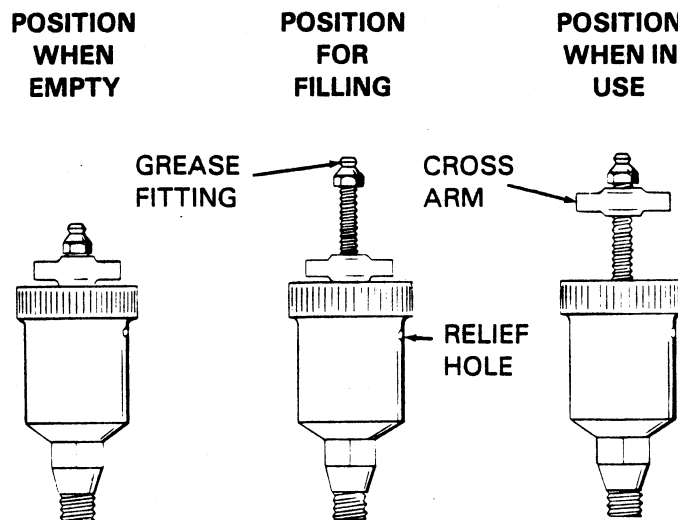

Figure 3. Automatic Lubricating Grease Cup
Before removing the seal assembly, turn the cross arm on the seal grease cup (18) clockwise until it rests against the cover (see figure 3). This will prevent the grease in the cup from escaping after the seal is removed.
Before starting the pump, fill the seal grease cup through the grease fitting with a good grade of No. 2 pressure gun grease until grease escapes from the relief hole. Turn the grease cup arm counterclockwise until it is at the top of the stem; this will release the spring to apply grease to the seal (see figure 3).